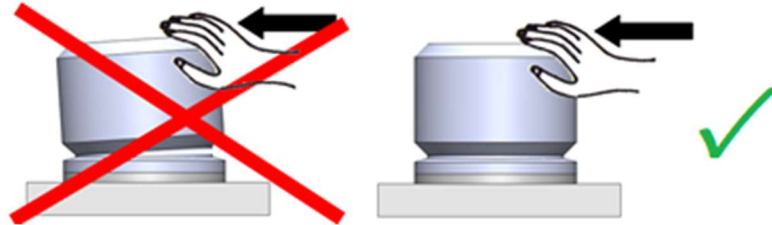

Fig. 15: check fastening
6.3.2 The buffer and the stability of fixing elements is checked by pressing a hand moderately against the buffer and visual control. The buffer fastening to the clamping plate (i. e. screw joint) needs to be checked as well and corrected in case of need (fig. 15). In case of any damages or modifications the buffer must be replaced.